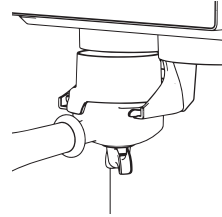

Figure 3
2. Portafiltre with the anti-splash device attached into the corresponding slot on the machine (Figure 3).